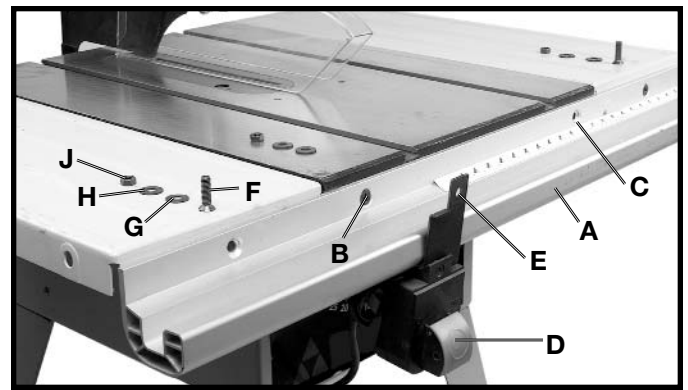

Fig. 40
1. Loosely assemble front guide rail (A) Fig. 40, to the front of the saw table. Align the two holes (B) and (C) with the two holes in the saw table. Insert a 3/8-16x1-1/2" flat head screw (F) Fig. 40, through holes (B) and (C) in the front guide rail (A) and the holes in the front of the saw table. Place hole in switch bracket (E) Fig. 40, on screw (B) located behind the inner lip of the saw table. Place a 3/8" flat washer (G) and a 3/8 lockwasher (H), onto the flat head screw (F). Thread a 3/8-16 hex nut (J), onto the flat head screw (F). Repeat this process for the remaining hole (C) in the guide rail and the saw table.